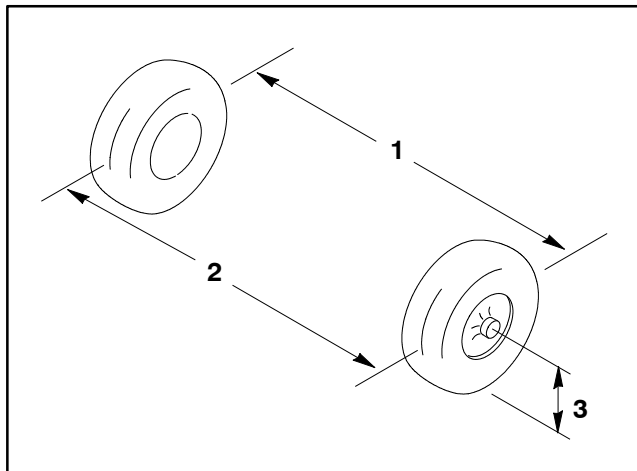

Figure 8
5. Measure the distance between the front tires at axle height at both the front and rear of the tires (Fig. 8). Front wheel toe-in should be **0 ± 0.125 inch (0 ± 3 mm)**.